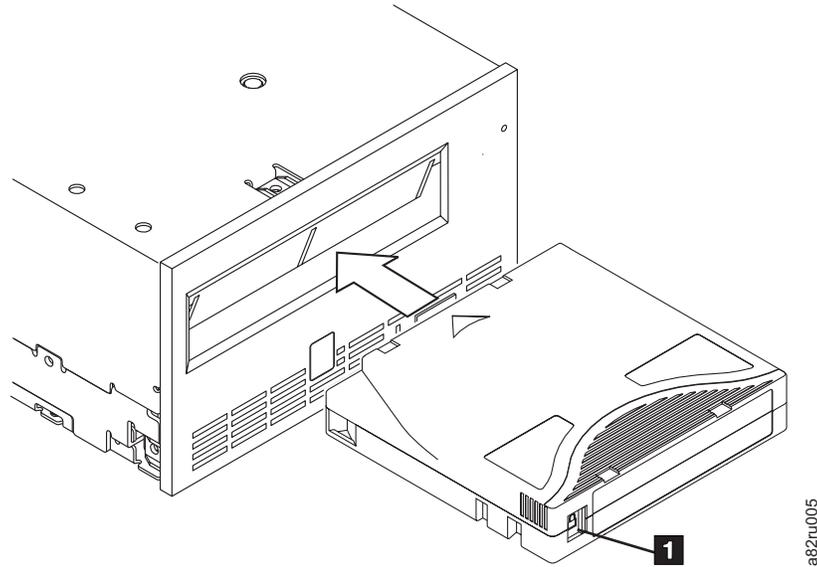

Figure 7. Inserting a cartridge into the drive
3. Grasp the cartridge so that the write-protect switch faces you ( in Figure 7 on page 14).